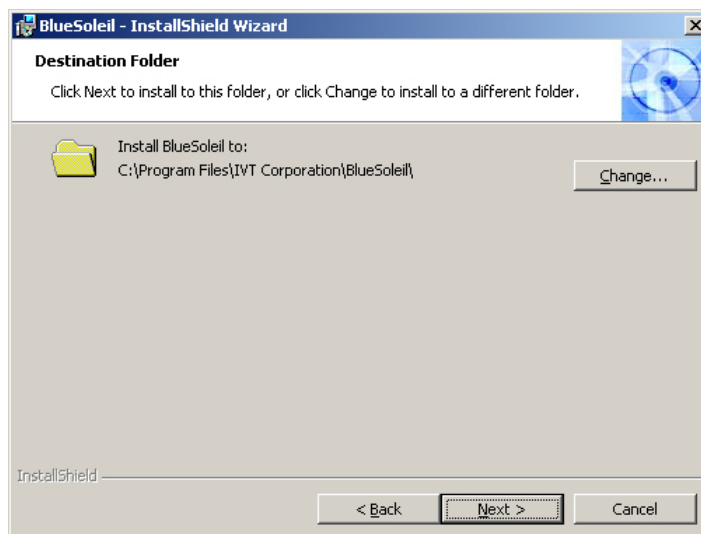

Figure 7-38: Bluetooth Driver Destination Folder
Step 6: The **Destination Folder** screen in **Figure 7-38** appears next. Confirm the destination folder to install the Bluetooth driver.